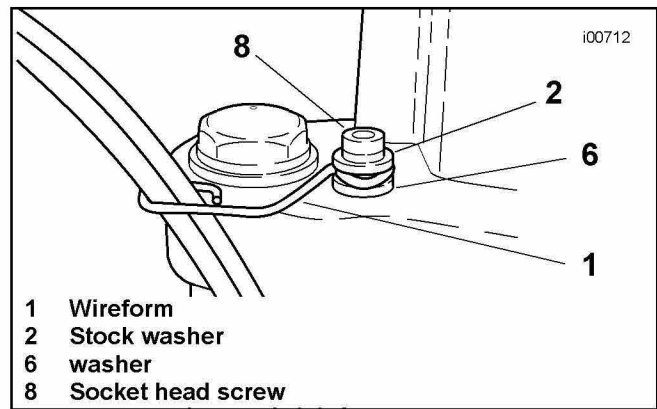

Figure 4. Throttle Cable Attachment
For buckhorn-style pullback handlebars, see Figure 4. Use wireform (1) included in kit to secure throttle cables to upper fork triple clamp as shown in illustration (top view). For all other models, use sockethead screw (8), stock washer (2) and washer (6) contained in kit, and place washer under wireform.